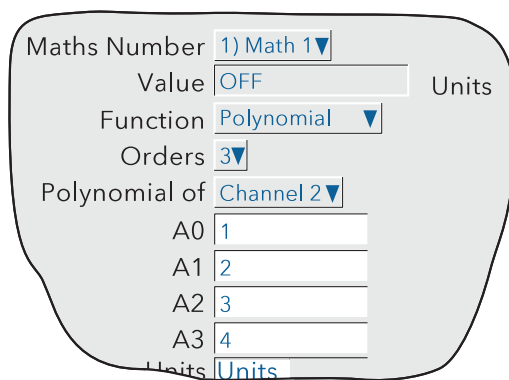

Figure 4.11.3b Polynomial configuration fields (3rd order)
$A_0 + A_1(X) + A_2(X^2) + A_3(X^3) + A_4(X^4) + A_5(X^5) + A_6(X^6) + A_7(X^7) + A_8(X^8)$ where X is the value of the source channel and A0 to A8 are constants. Figure 4.11.3b shows the configuration items for a third order fit with channel 2 used as the source (X), and A0 = 1, A1 = 2, A2 = 3 and A3 = 4.